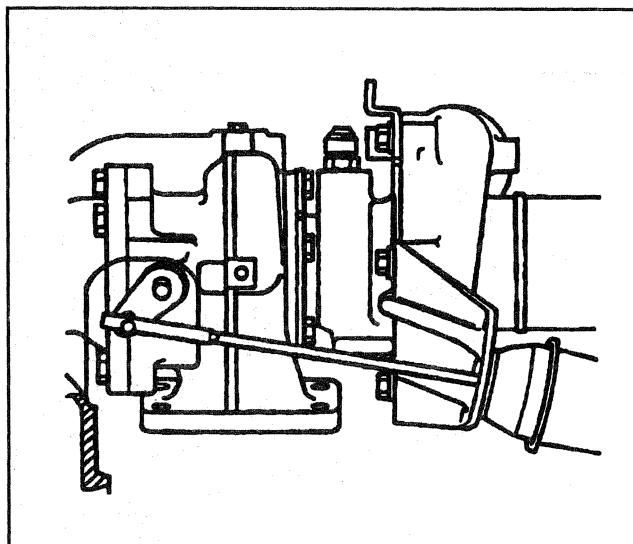

Figure 14—Actuator Assembly Mounting
**Remove or Disconnect (Figure 14)**
### Install or Connect (Figure 14)